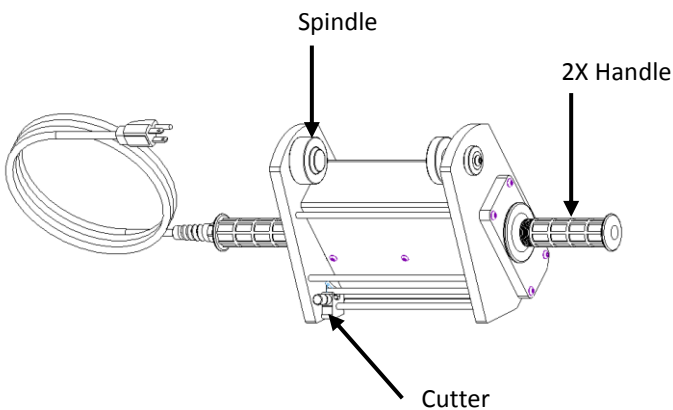

Figure 3
1. Lift the printer up and all in one motion push printer forward in air to create enough draft to push Leaf under heated roller. Immediately set the printer down onto the work piece with the Leaf under the heated roller in the *Printing Position* as shown in *Figure 3*.